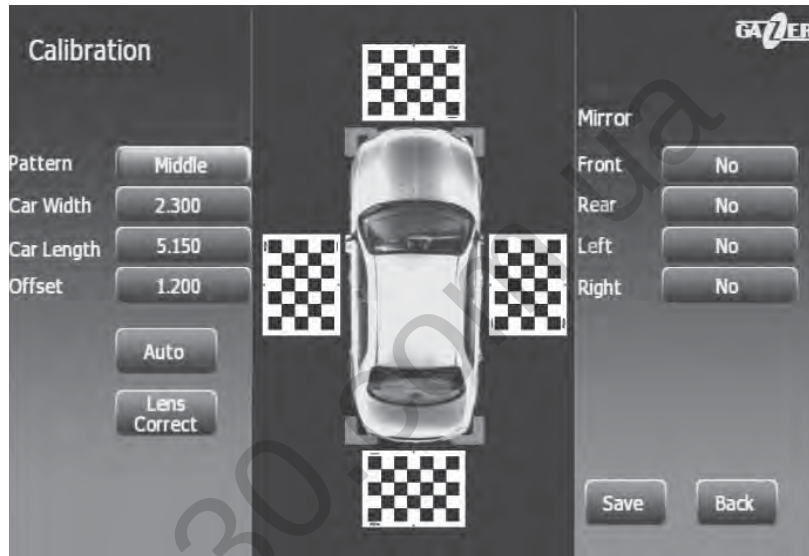

Fig. 9
- After adjusting the camera view, go back to the previous menu using the “Back” button on the remote control. Enter L (Length), W (Width), P (Pan) values in the corresponding fields in accordance with your data and then select “Auto” (Fig. 9) in the menu. In case calibration was successful, you will see a panoramic “plan” view of your car without any blind spots (Fig. 9).